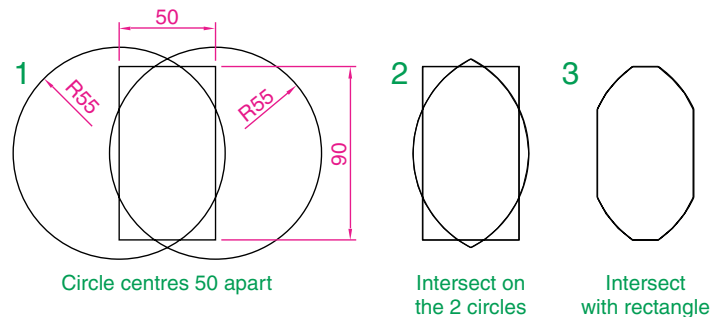

Fig. 13.11 Third example – Intersection and regions
Third example – Intersection and regions (Fig. 13.11)
1. Construct drawing **1** of Fig. 13.11.